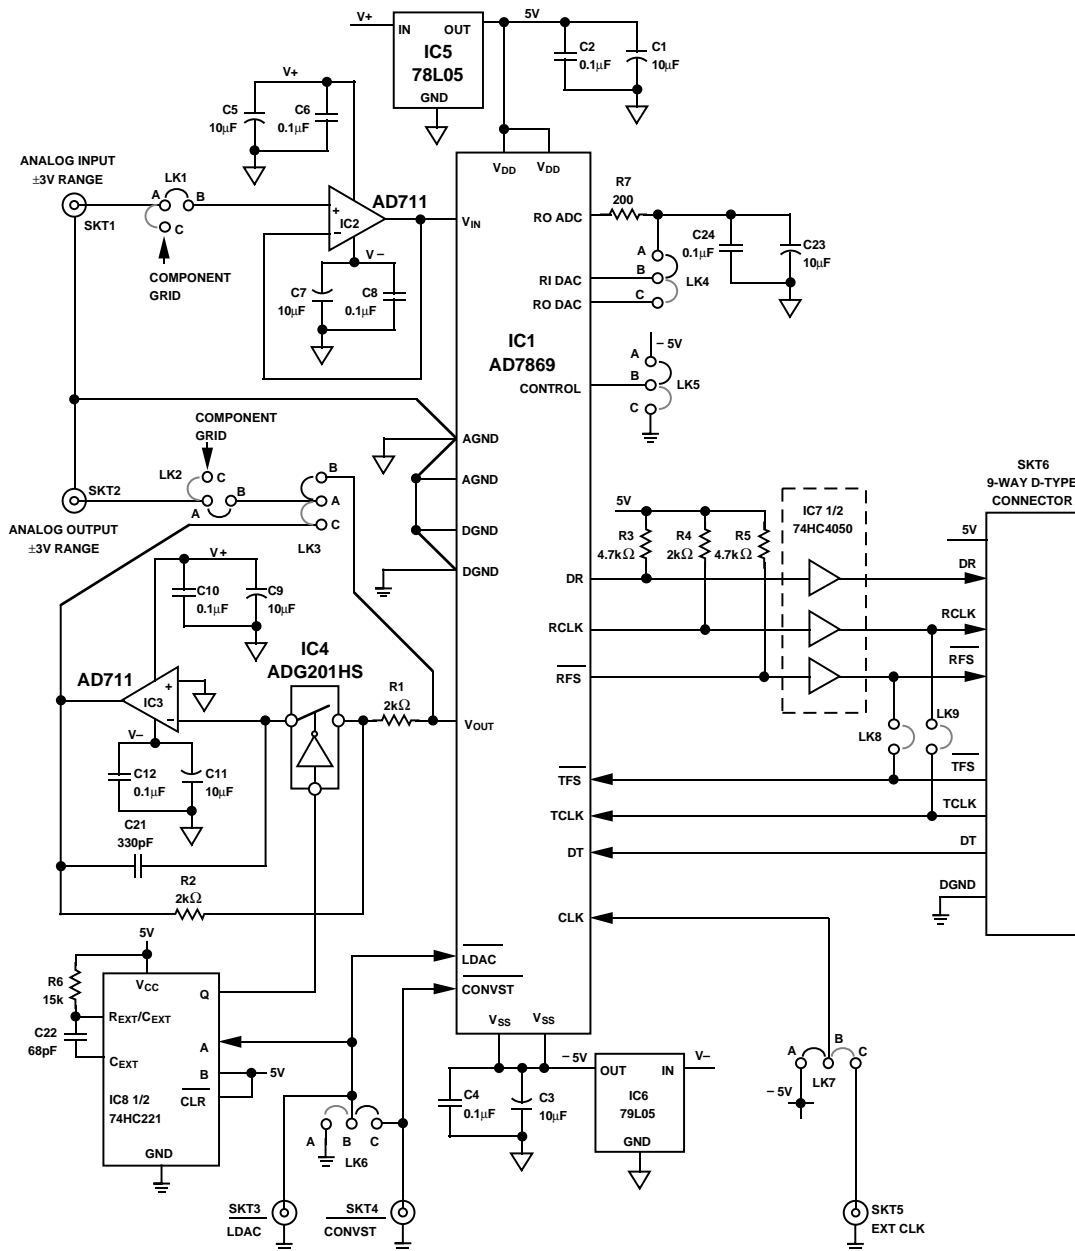
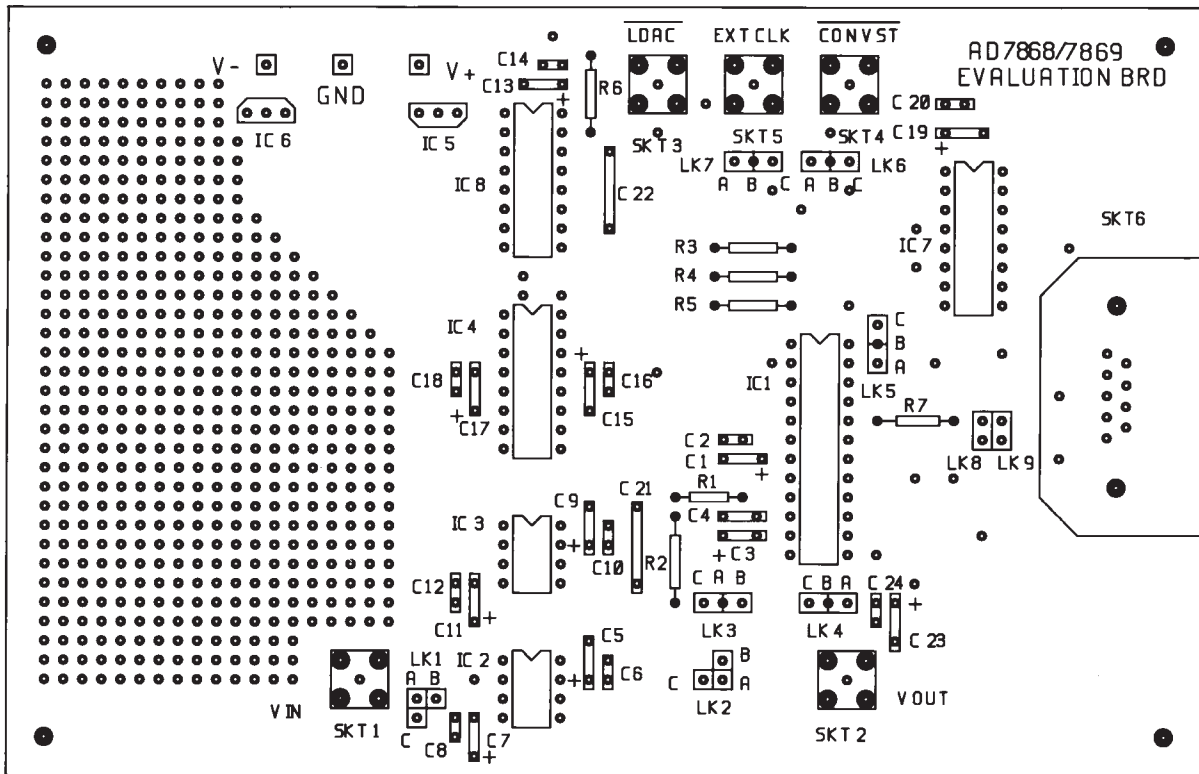

Figure 19. Input/Output Circuit Based on the AD7869
Figure 21. Silkscreen for the Circuit Diagram of Figure 19
Figure 19 shows an analog I/O board based on the AD7869. The corresponding printed circuit (PC) board layout and silkscreen are shown in Figures 21 to 23.
The PC board requires two analog power supplies and one 5 V digital supply. Connections to the analog supply are made directly to the PC board as shown on the silkscreen in Figure 21. The connections are labeled  $V_{+}$  and  $V_{-}$ , and the range for both of these supplies is 12 V to 15 V. Connections to the 5 V digital supply are made through the D-type connector SKT6. The  $\pm 5$  V analog supply required by the AD7869 is generated from two voltage regulators on the  $V_{+}$  and  $V_{-}$  supplies.